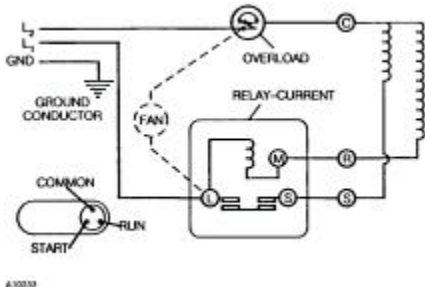
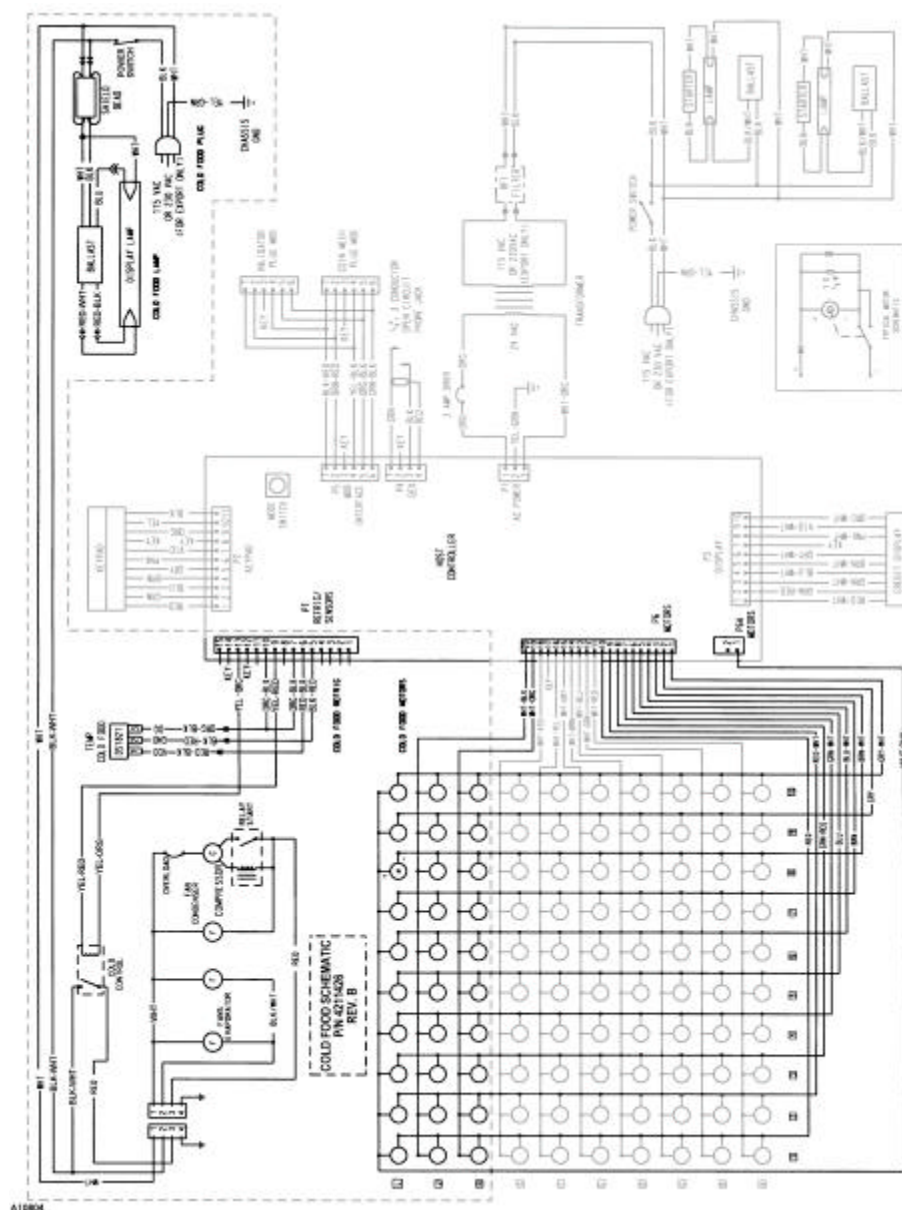

Figure 7.1. Compressor Schematic
Figure 13.1. Cold Food Schematic
- Bad windings (See **Figure 7.1** and **Figure 13.1** schematics on pages 22 and 28 respectively.)
See **Figure 7.1** (page 22) and **Figure 13.1** (page 28) for schematics and wiring diagrams.
- Check relay (See **Figure 7.1**). Unscrew lead terminals and remove relay from compressor. (NOTE: keep relay upright).
- Check compressor windings as shown in **Figure 7.1** and **Figure 13.1** schematics (pages 22 and 28).